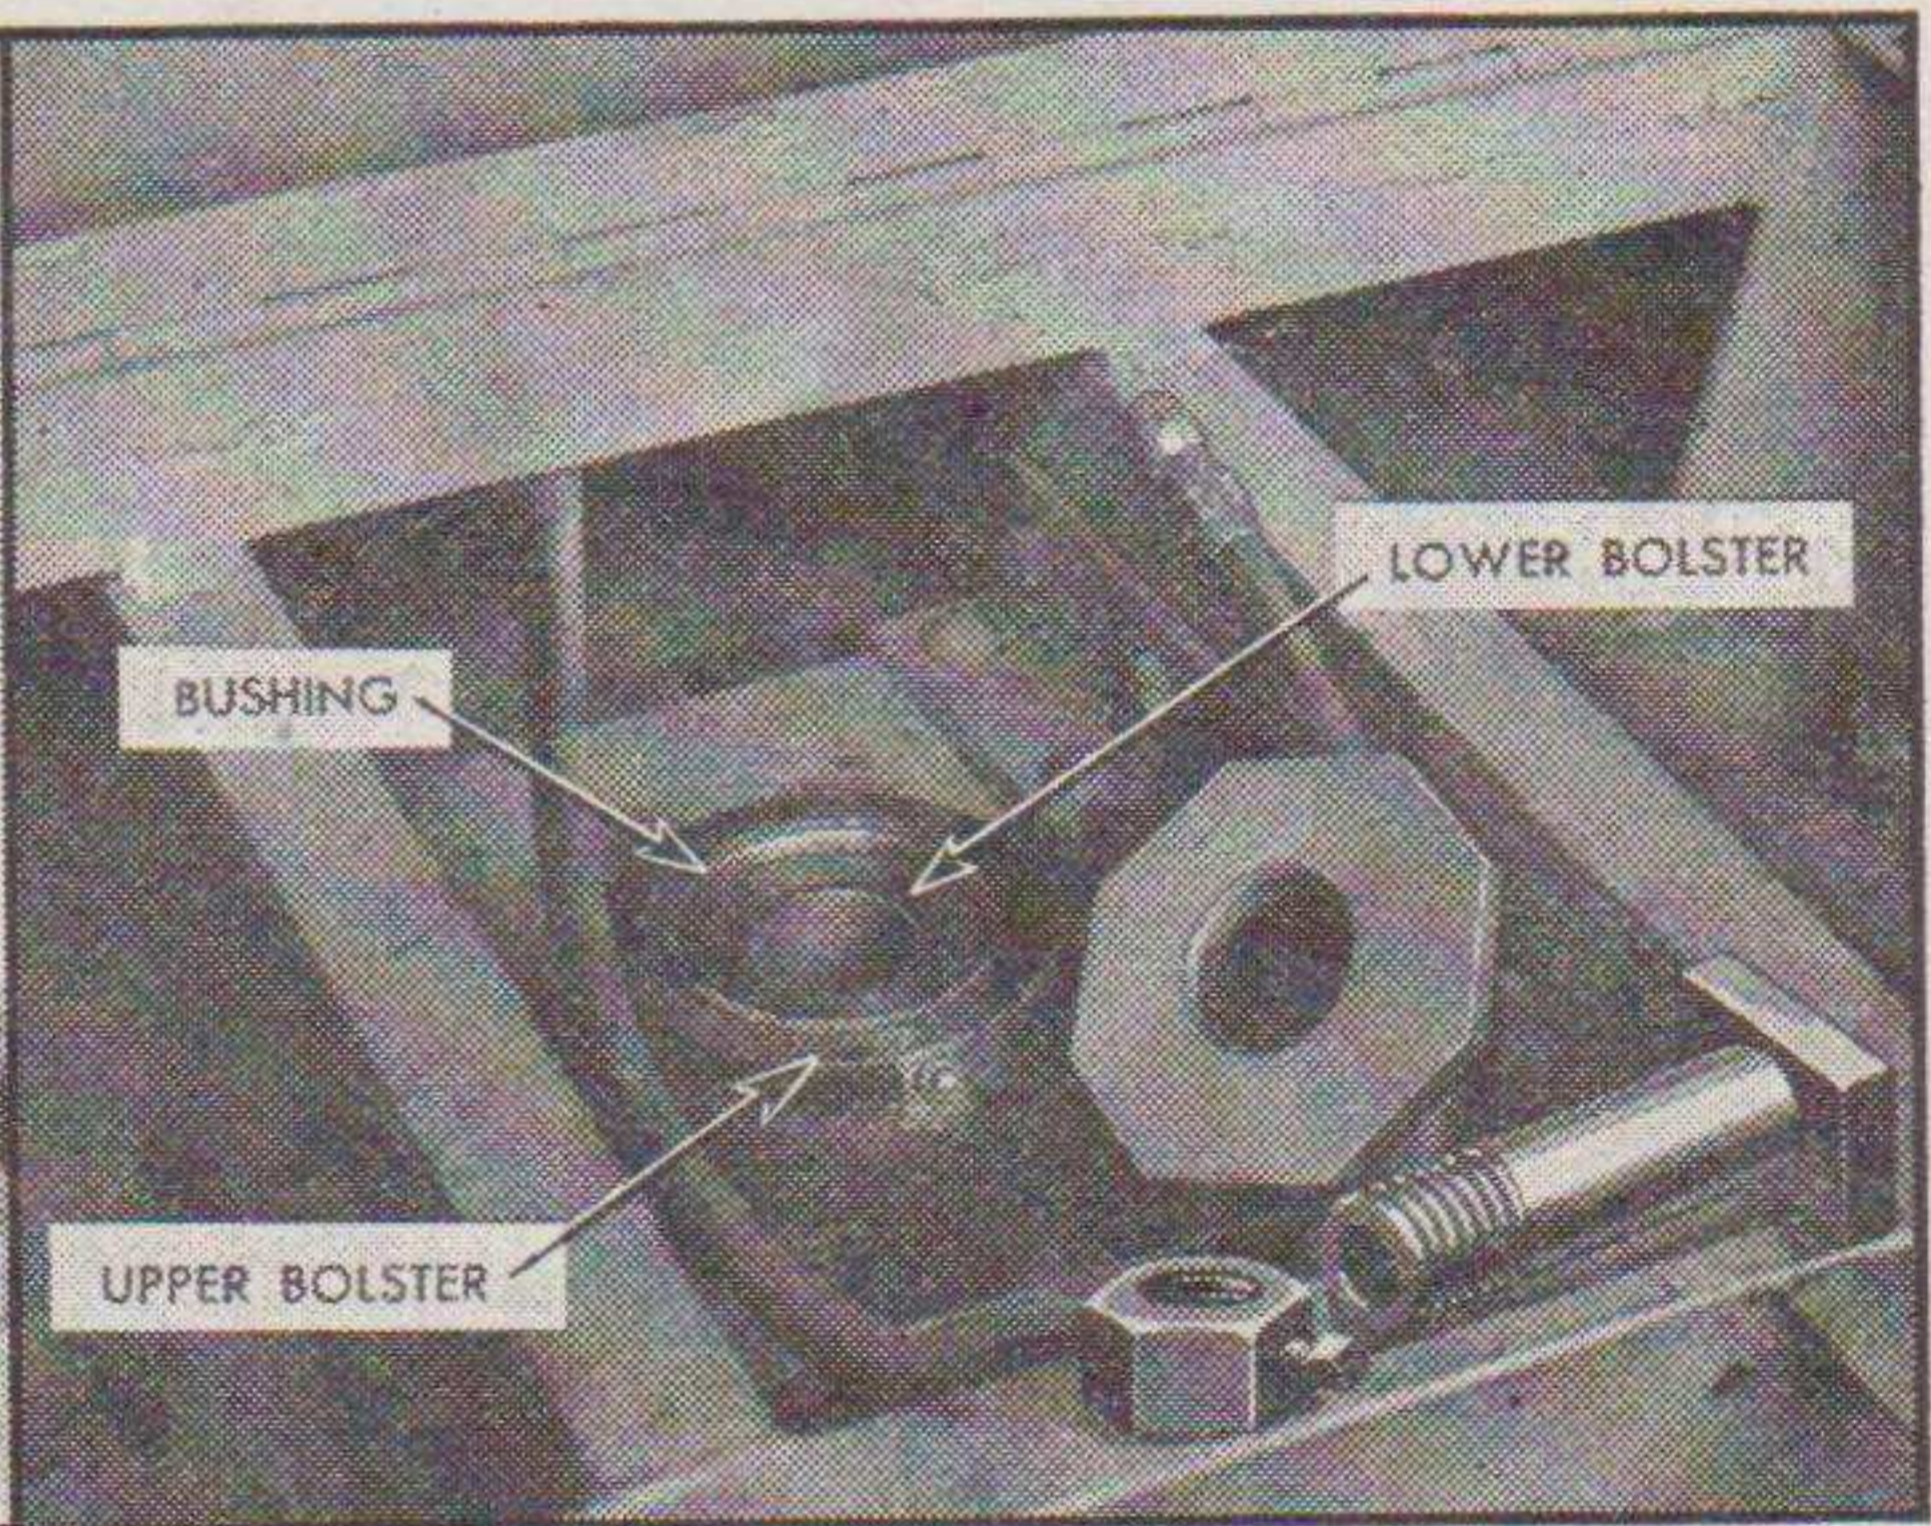

FIGURE 33. REMOVING BOLSTER
6. REPLACING BOLSTER PLATES (Refer to Figure 33).—*a.* Remove the lock screw and nut holding plate to lower bolster.
7. REBUSHING UPPER BOLSTER PLATE (Refer to Figure 33).